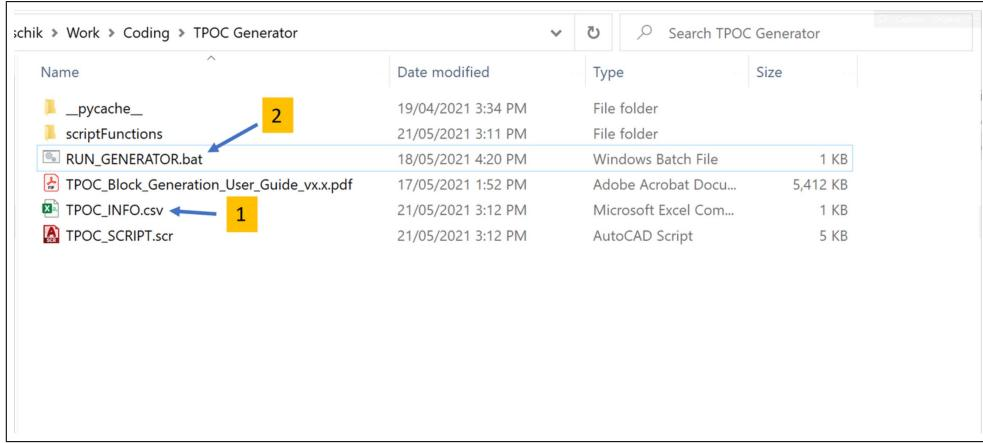

Figure 12: Running AutoCAD Block Script Generator
2. Double click the **RUN_GENERATOR.bat** file as shown in Figure 12